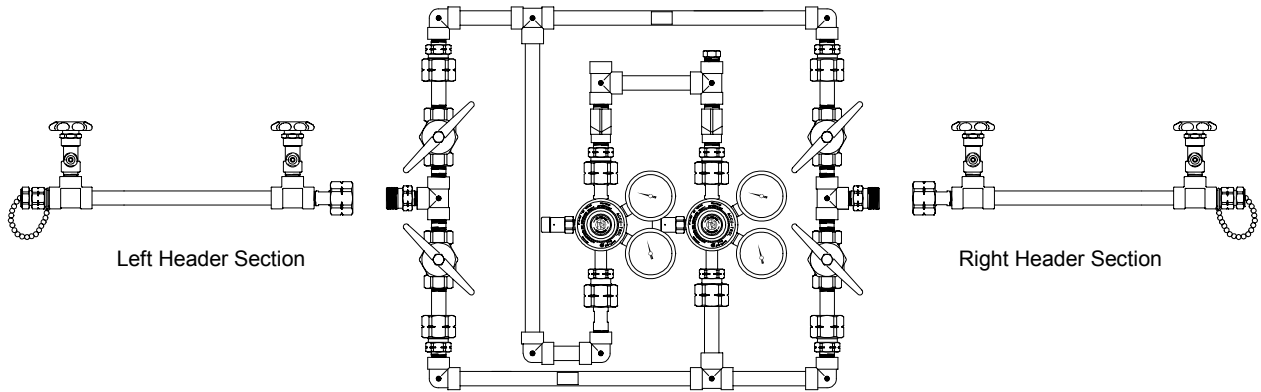

Figure 5
1. Assemble the right and left header assemblies to the AD inlet oriented as shown in Figure 5.